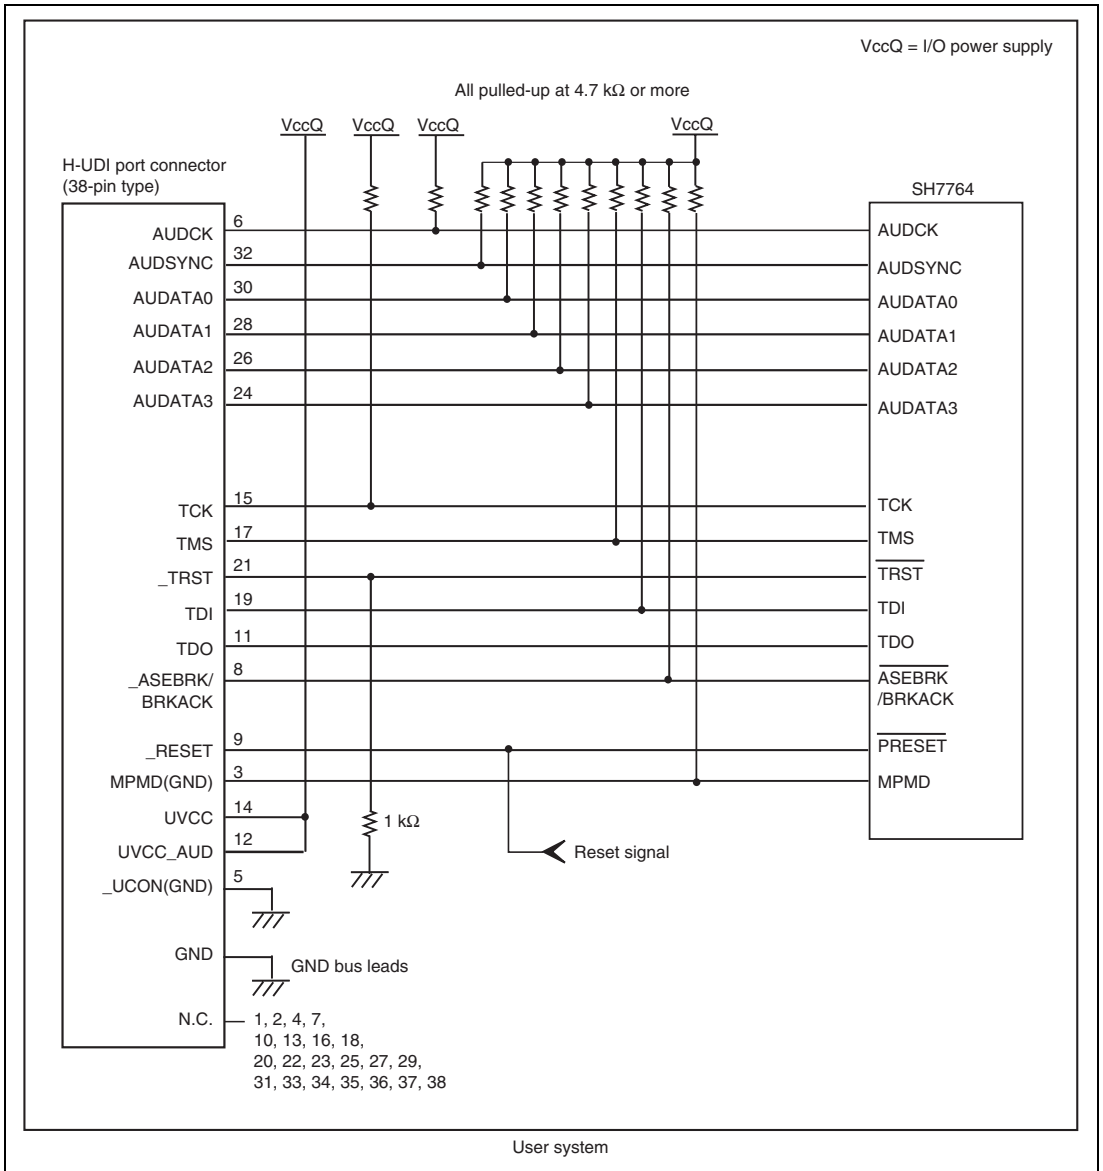

Figure 1.7 Recommended Circuit for Connection between the H-UDI Port Connector and MPU when the Emulator is in Use (38-Pin Type)
Figure 1.7 shows a recommended circuit for connection between the H-UDI and AUD port connectors (38 pins) and the MPU when the emulator is in use.
- (1) When the emulator is used: $MPMD = 0$
- (2) When the emulator is not used: $MPMD = 1$Figure 1.7 shows an example of circuits that allow the MPMD pin to be GND (0) whenever the emulator is connected by using the user system interface cable. When the MPMD pin is changed by switches, etc., ground pin 3. Do not connect this pin to the MPMD pin.
7. The resistance value shown in figure 1.7 is for reference.
When the circuit is connected as shown in figure 1.7, the switches of the emulator are set as SW2 = 1 and SW3 = 1. For details, refer to section 3.8, Setting the DIP Switches, in the SuperH™ Family E10A-USB Emulator User's Manual.